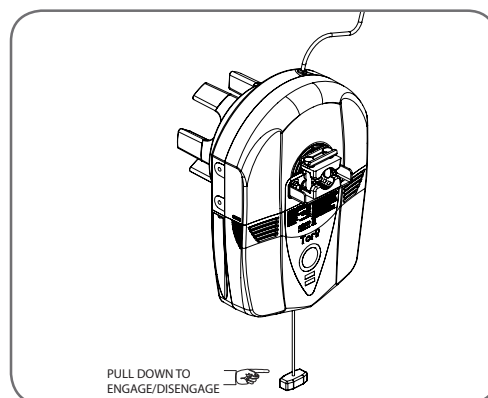

fig 12
- b. Move the door to half way open. If necessary, disengage the opener by pulling the cord down (**Fig.12**). Re-engage the opener by pulling the cord down.